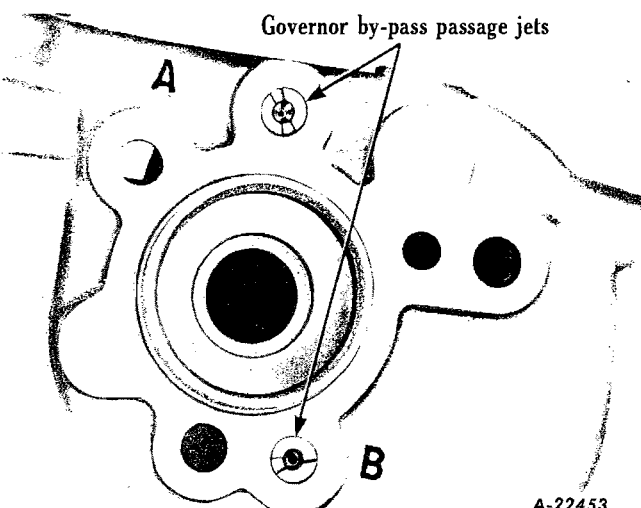

Fig. 62
- Fig. 62 - Remove the governor housing by-pass jets. The assembly of governor by-pass passage jets is shown above. The outside diameters of the "A" jet and "B" jet are not identical, hence it is impossible to assemble them incorrectly.
12. **GOVERNOR BY-PASS PASSAGE JETS.** Replace jets if worn or damaged. Install the by-pass jets in "A" and "B" channel (Figure 62).